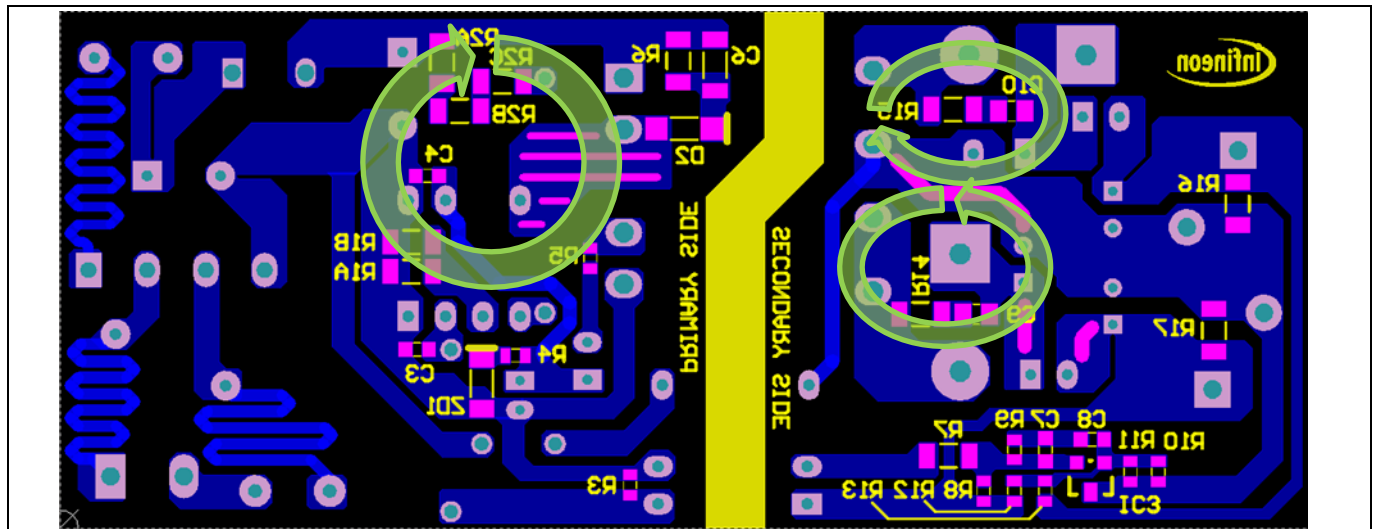

Figure 5 PCB layout tips
- The switching power loop needs to be as small as possible (see Figure 5). There are three power loops in the reference design; one on the primary side and two on the secondary side. The primary-side loop starts from the bulk capacitor (C2) positive terminal, goes through the primary transformer winding (pin 1 and pin 2 of T1), the DRAIN pin and CS pin of the CoolSET™ IC1, CS resistors R1A and R1B and back to the C2 negative terminal. The secondary-side loop starts at the 12 V output secondary transformer winding (pin 9 of T1), goes through output diode D3, output capacitor C11 and back to pin 8 of T1. Another loop on the secondary starts from the 5 V output secondary transformer winding (pin 6 and 7 of T1), output diode D4, output capacitor C13 and back to pin 8 of T1.
- Separating the HV components and LV components, e.g. clamper circuit D12, R6 and C6, at the top part of the PCB (see Figure 5) and the other LV components at the lower part of the PCB can reduce the spark-over chance of the high energy surge during ESD or a lightning surge test.